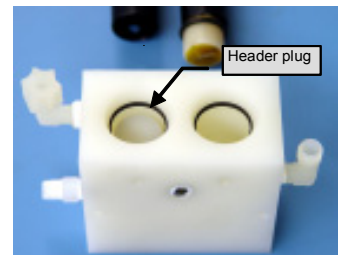

Figure 16
- a. Locate one of the coupling fittings and place it on a hard surface with the shell tube bores facing up. Install o-rings (item 6) in the grooves (See Figure 16).